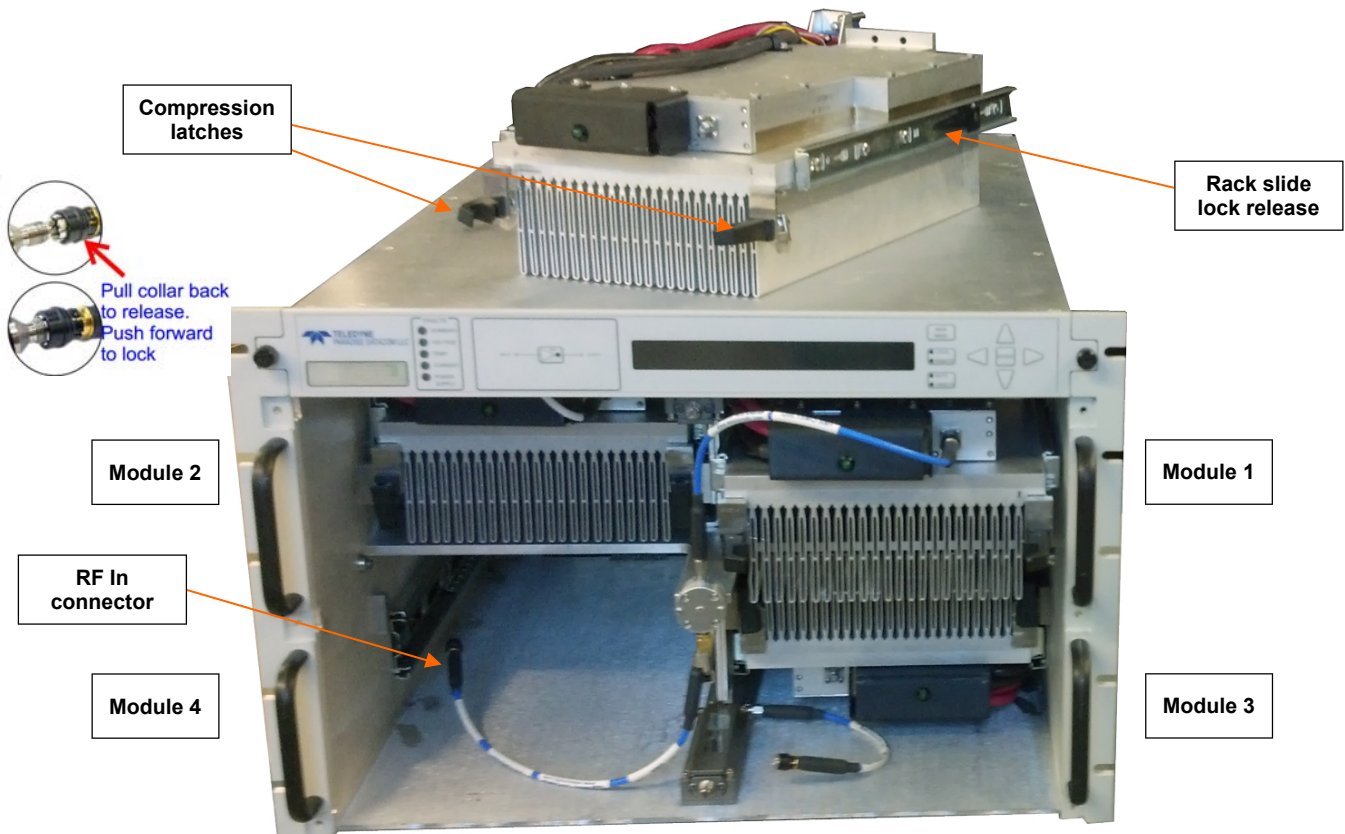

Figure 2-5: Slide SSPA Module from Chassis Enclosure
A faulted module may be removed from the chassis without taking the amplifier offline. To identify the faulted module, press the **Main Menu** key on the front panel, select **1.SysInfo** and press the **Enter** key. Press the **Down Arrow** (▼) key seven (7) times to view the operation condition of Module1, Module2, Module3 and Module4. **Figure 2-5** shows the location of each module.
With the front panel removed, uncouple the RF In connector from the faulted module, lift and turn the compression latches on either side of the module assembly, and slide the unit out of the enclosure by releasing the slide locks on either side of the module assembly. See **Figure 2-5**.